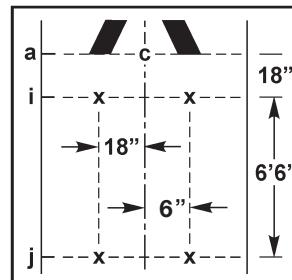

Figure 43
- Extend the center line "c" 8 feet below the bottom of the "X". Snap two parallel chalk lines shown as lines "i" and "j". The distance from line "a" to line "i" is 18 inches (see Figure 43).
- Mark points on lines "i" and "j" 18 inches to the LEFT of center line "c". Mark points on lines "i" and "j" 6 inches to the RIGHT of center line "c". Snap a vertical chalk line to connect these points on lines "i" and "j". The left edge of the "R"s will be placed onto these lines (see Figure 43).